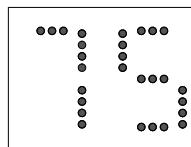

Fig. 2
2. Screw the hose inlet (Fig.2).
After change, in cool mode, the screen display like fig2.